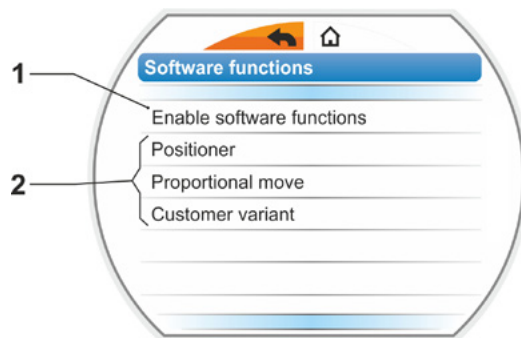

Fig. 1: Indication in the display: 'Software functions' menu
The 'Software function menu' with 'Enable software functions' menu item opens (fig. 1, item 1).
Should software functions and/or customer variants, which can be programmed, already be enabled, their names will be displayed, fig. 1, item 2.
6. Confirm 'Continue' (item 6).
The display changes to the 'Software functions' menu where the enabled function will be displayed accordingly (see above operation step 1. and fig. 1, item 2).